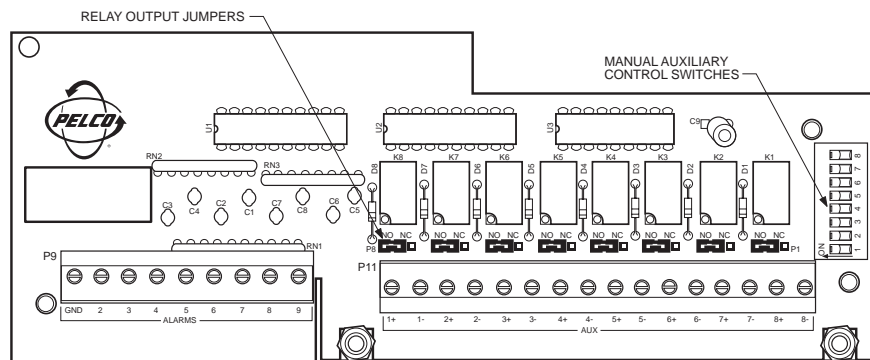

Figure 2. ERD97-AUX Option Board Layout
4. (Optional) The auxiliary switches are factory set for remote (keyboard) operation. The option board's auxiliary functions can be controlled manually by resetting the Manual Auxiliary Control switches to the ON position. Refer to Figure 2.
5. (Optional) The auxiliary output relays are factory set in the normally open (NO) position. To reset the auxiliary output relays to normally closed mode, change the jumpers to the NC position. Refer to Figure 2.